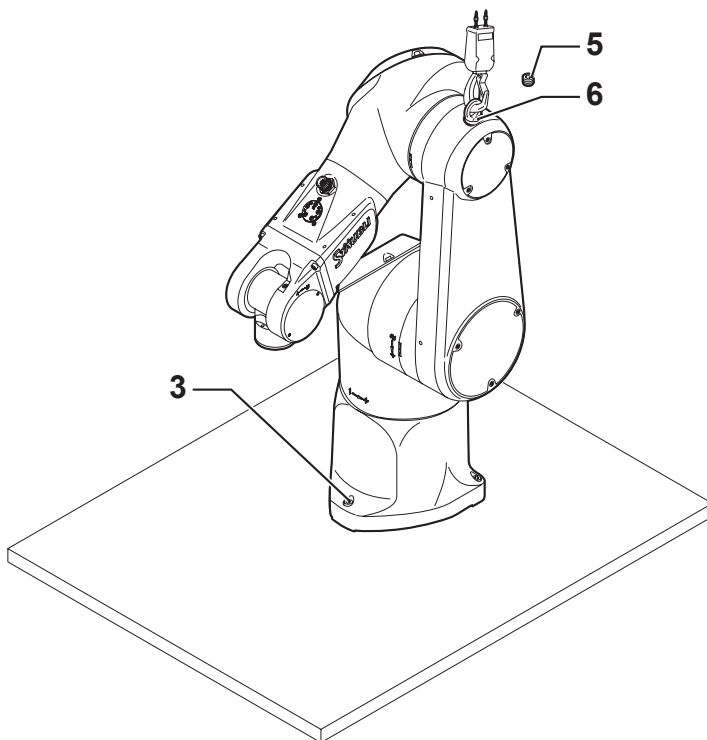

Figure 3.4
3.4.1. INSTALLATION OF ARM ON FLOOR (figure 3.4)